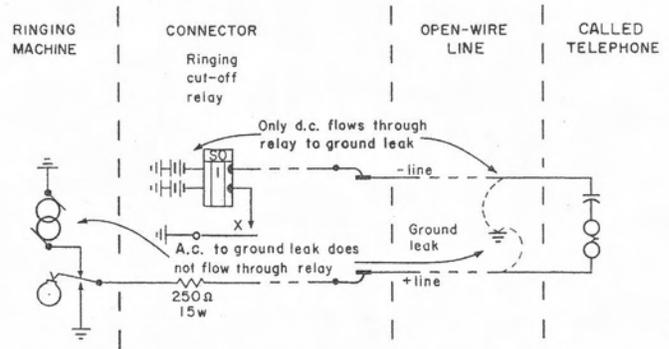

Figure 22. Ground-connected generator, showing a fault drawing only d.c. thru ringing cut-off relay.
19.3 Ground-connected generator is preferable for open-wire lines common in rural areas. The central-office battery is connected directly to the connectors' ringing cut-off relays (figure 22).
The advantage is that a ground leak of high enough resistance that it doesn't put a "permanent" seizure on the line, also cannot cause premature ringing cut off. In figure 22 a -line ground leak draws thru the ringing cut-off relay current from the battery only, not peaked by the a-c generator. A +line ground leak draws no current thru the ringing cut-off relay.
Figure 22 shows each connector requires a 250Ω 15-watt resistor. If there is a low-resistance fault-ground on the +line near the central office, the 250Ω resistor limits current flow so the generator won't overheat. This resistor brings about the less favorable aspects of ground-connected generator: one more part per connector, no inductance to suppress noise-frequency a.c., and a tendency of the extra resistance to lower the maximum loop resistance permissible in lines the connector serves.